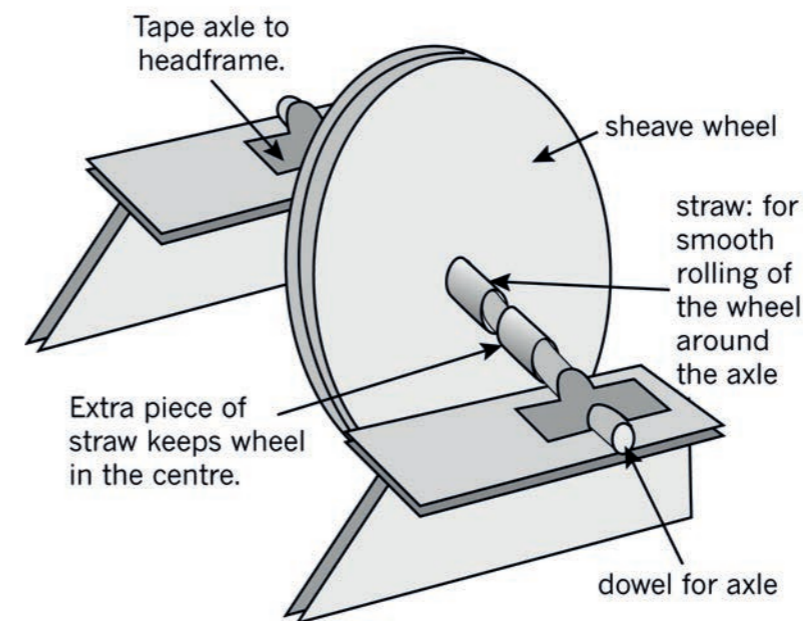

Figure 11: How to add a sheave wheel to the top of a head frame
Look at the picture in Figure 11. A sheave wheel has been added to the top of a head frame in the following way:
8. Now add your sheave wheel to its head frame. Use Figure 11 to help you. [2]